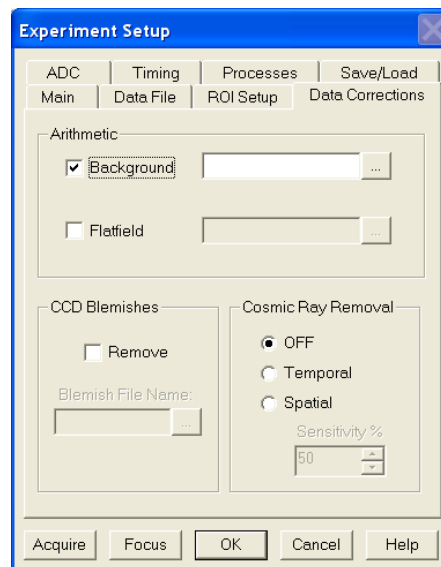

Figure 23. Data Corrections tab
- On the **Data Corrections** tab (Figure 23) all of the correction functions should be OFF.